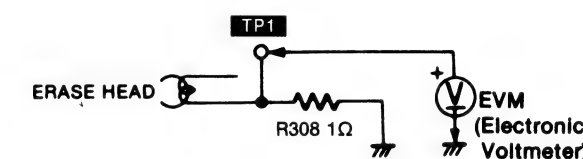

Fig. 15
2. Assure that the frequency response is within the range shown in Fig. 15 for both L-CH and R-CH.